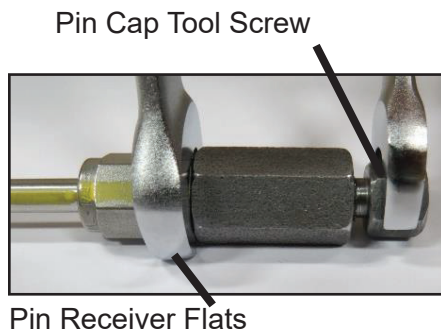

Figure 41: Tighten the pin cap tool screw.
4. Hold the pin receiver flats with a 9/16" wrench and **use a 1/2" wrench to turn the pin cap tool screw** onto the receiver until it contacts the pin cap tool base (Figure 41). **DO NOT** turn the pin receiver flats. Ensure there is metal-to-metal contact between the base of the pin cap tool and the pin receiver flats as shown in Figure 41.